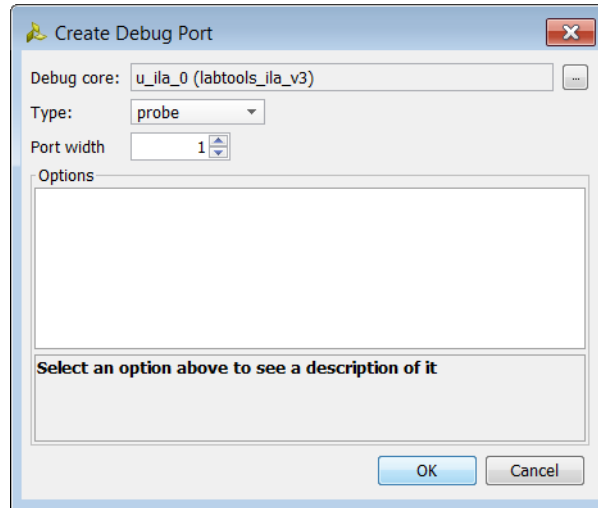

Figure 4-5: Creating a New Debug Port
2. Click **Create Debug Port** to open the dialog shown in Figure 4-5.